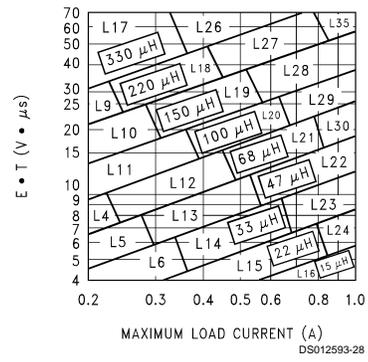

FIGURE 7. LM2598-ADJ
<p>Given: V_{OUT} = Regulated Output Voltage $V_{IN(max)}$ = Maximum Input Voltage $I_{LOAD(max)}$ = Maximum Load Current F = Switching Frequency (Fixed at a nominal 150 kHz).</p> <p>1. Programming Output Voltage (Selecting R_1 and R_2, as shown in Figure 1) Use the following formula to select the appropriate resistor values.</p> $V_{OUT} = V_{REF} \left(1 + \frac{R_2}{R_1} \right) \text{ where } V_{REF} = 1.23V$ <p>Select a value for R_1 between 240Ω and 1.5 kΩ. The lower resistor values minimize noise pickup in the sensitive feedback pin. (For the lowest temperature coefficient and the best stability with time, use 1% metal film resistors.)</p> $R_2 = R_1 \left(\frac{V_{OUT}}{V_{REF}} - 1 \right)$ <p>2. Inductor Selection (L1) A. Calculate the inductor Volt • microsecond constant $E \cdot T$ ($V \cdot \mu s$), from the following formula:</p> $E \cdot T = (V_{IN} - V_{OUT} - V_{SAT}) \cdot \frac{V_{OUT} + V_D}{V_{IN} - V_{SAT} + V_D} \cdot \frac{1000}{150 \text{ kHz}} (V \cdot \mu s)$ <p>where V_{SAT} = internal switch saturation voltage = 1V and V_D = diode forward voltage drop = 0.5V</p> <p>B. Use the $E \cdot T$ value from the previous formula and match it with the $E \cdot T$ number on the vertical axis of the Inductor Value Selection Guide shown in Figure 7.</p> <p>C. on the horizontal axis, select the maximum load current.</p> <p>D. Identify the inductance region intersected by the $E \cdot T$ value and the Maximum Load Current value. Each region is identified by an inductance value and an inductor code (LXX).</p> <p>E. Select an appropriate inductor from the four manufacturer's part numbers listed in Figure 8.</p> <p>3. Output Capacitor Selection (C_{OUT}) A. In the majority of applications, low ESR electrolytic or solid tantalum capacitors between 82 μF and 220 μF provide the best results. This capacitor should be located close to the IC using short capacitor leads and short copper traces. Do not use capacitors larger than 220 μF. For additional information, see section on output capacitors in application information section.</p>	<p>Given: $V_{OUT} = 20V$ $V_{IN(max)} = 28V$ $I_{LOAD(max)} = 1A$ $F =$ Switching Frequency (Fixed at a nominal 150 kHz).</p> <p>1. Programming Output Voltage (Selecting R_1 and R_2, as shown in Figure 1) Select R_1 to be 1 kΩ, 1%. Solve for R_2.</p> $R_2 = R_1 \left(\frac{V_{OUT}}{V_{REF}} - 1 \right) = 1k \left(\frac{20V}{1.23V} - 1 \right)$ <p>$R_2 = 1k (16.26 - 1) = 15.26k$, closest 1% value is 15.4 kΩ. $R_2 = 15.4 \text{ k}\Omega$.</p> <p>2. Inductor Selection (L1) A. Calculate the inductor Volt • microsecond constant ($E \cdot T$),</p> $E \cdot T = (28 - 20 - 1) \cdot \frac{20 + 0.5}{28 - 1 + 0.5} \cdot \frac{1000}{150} (V \cdot \mu s)$ $E \cdot T = (7) \cdot \frac{20.5}{27.6} \cdot 6.67 (V \cdot \mu s) = 34.8 (V \cdot \mu s)$ <p>B. $E \cdot T = 34.8 (V \cdot \mu s)$</p> <p>C. $I_{LOAD(max)} = 1A$</p> <p>D. From the inductor value selection guide shown in Figure 7, the inductance region intersected by the 35 ($V \cdot \mu s$) horizontal line and the 1A vertical line is 100 μH, and the inductor code is L29.</p> <p>E. From the table in Figure 8, locate line L29, and select an inductor part number from the list of manufacturers part numbers.</p> <p>3. Output Capacitor Selection (C_{OUT}) A. See section on C_{OUT} in Application Information section.</p>